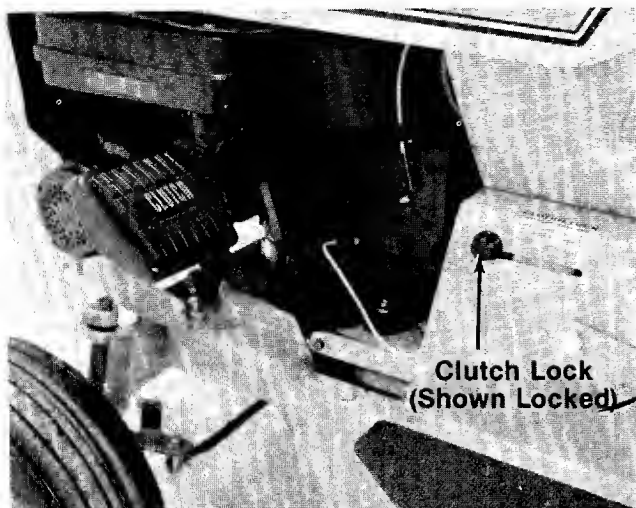

FIGURE 19.
The clutch pedal is located on the left hand side of the tractor and is operated with your left foot. Depress the pedal to disengage the drive mechanism. Release the clutch slowly to engage. The clutch and brake pedals must both be depressed when stopping the tractor. When shifting gears, the clutch pedal must be disengaged, and the tractor cannot be moving. See figure 19.
When the clutch pedal is depressed all the way, it can be locked by lifting up the lock button. The pedal will stay depressed. To release, depress the pedal. See figure 19.
4. Depress the clutch pedal and lock it down with the clutch lock. See figure 19.